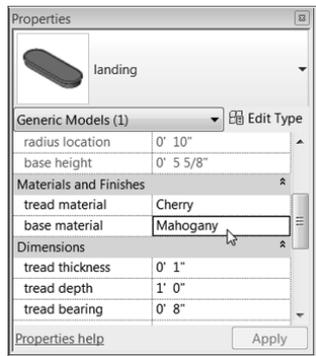

FIGURE 10.68: Changing the landing material to match the theme of the staircase
9. Change Base Material to Mahogany, and click OK (see Figure 10.68).